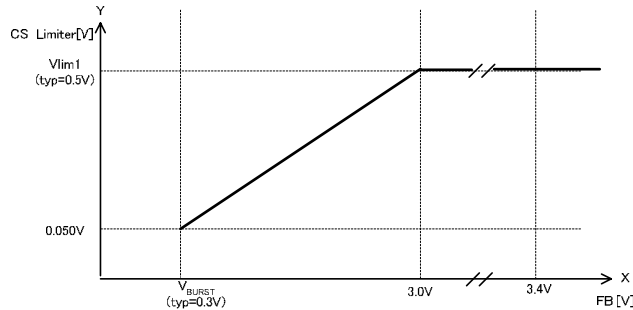

Figure 12. FB pin voltage - over current limiter characteristics [gain=1/6 setting]
**(1) Determination of ON width (Turn OFF)**
- CS comparator level is changed lineally to be shown in Figure 12.